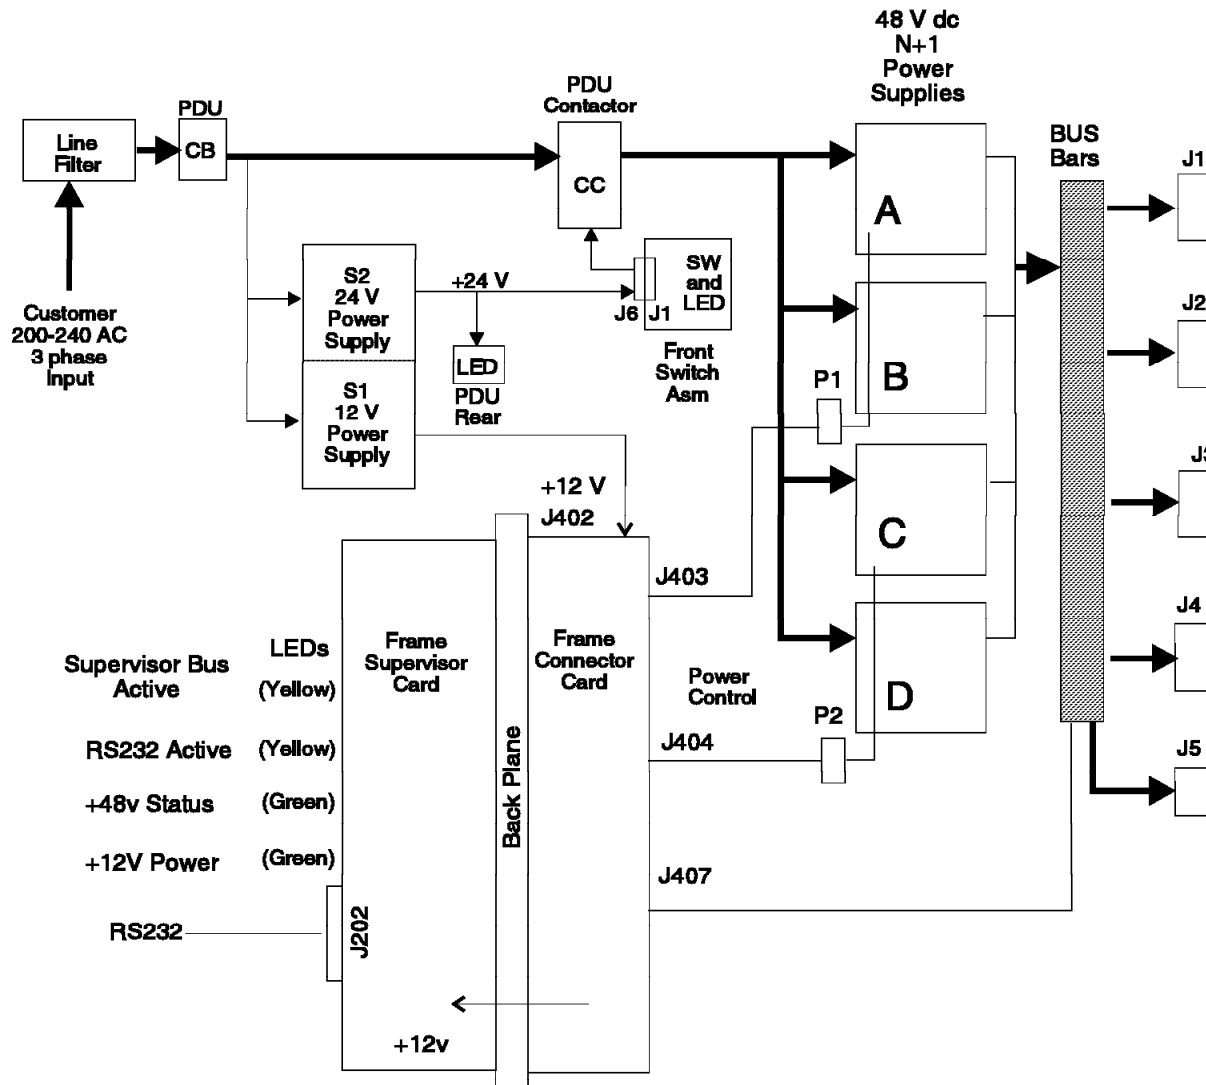

Figure 1-25. PDU + 48 V dc Power Diagram
- Refer to Figure 1-25 to view the dc bulk power supplies.